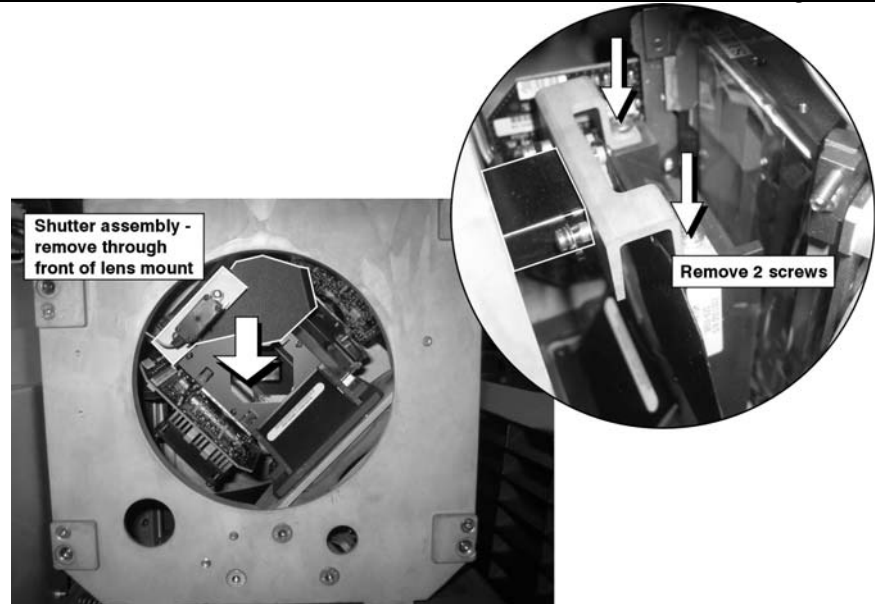

Figure 67. Remove Shutter Assembly
4. Remove the two (2) screws securing the shutter assembly (shutter bracket and shutter) to the light engine. Pass the assembly through the opening in the lens bezel to remove. (Figure 67.)